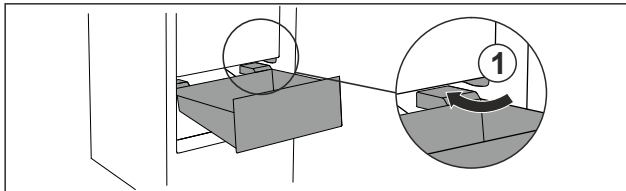

Fig. 95
- ▶ Guide drawer in at an angle around the stoppers Fig. 95 (1).